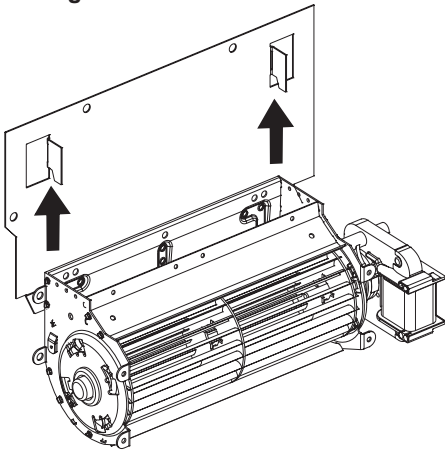

Figure 2
2. Install the blower onto the prebent brackets on the blower plate. Ensure the Velcro connects to secure the blower in place. **See Figure 2.**